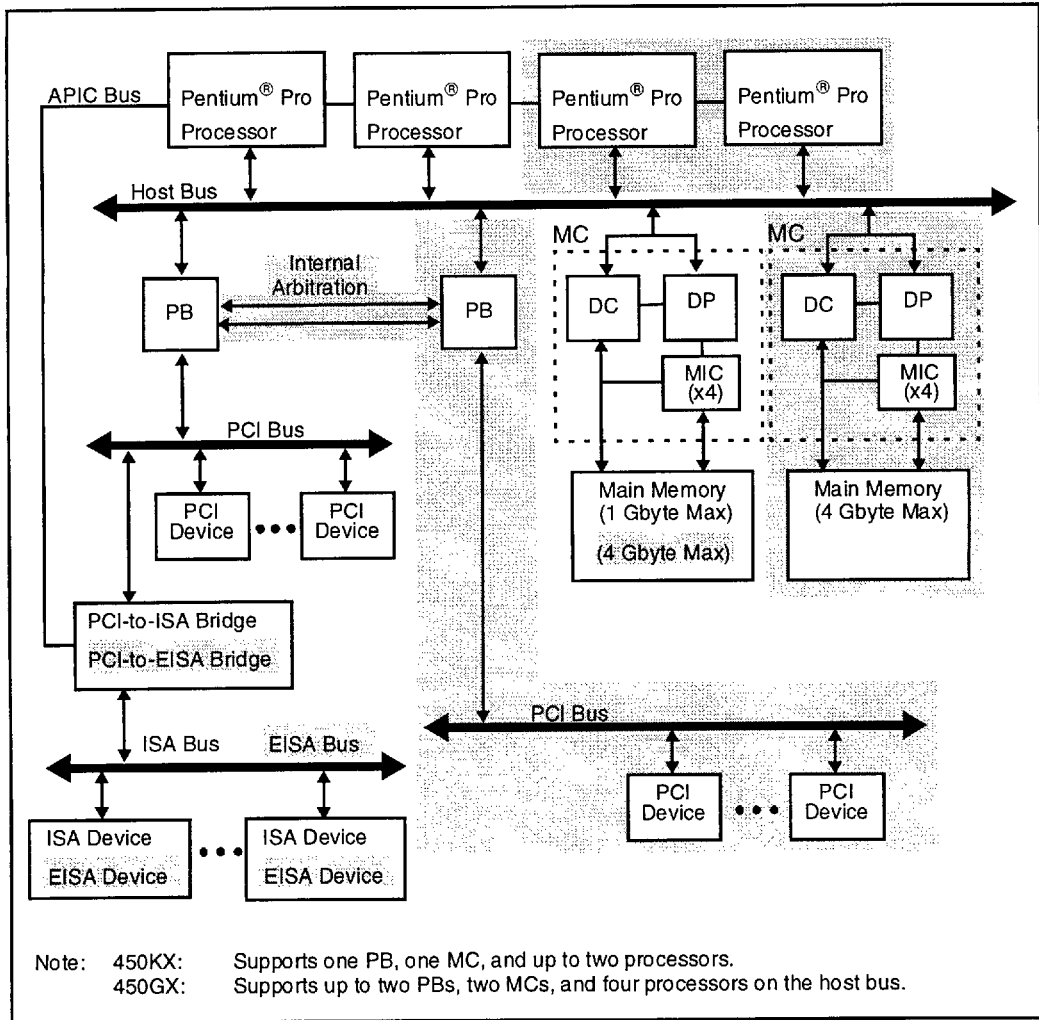

Figure 1. 450KX/GX Simplified System Block Diagram
The 450KX desktop PCiset consists of the 82454KX PCI Bridge (PB) and the Memory Controller (MC). The MC consists of the 82453KX DRAM Controller (DC), the 82452KX Data Path (DP), and four 82451KX Memory Interface Components (MIC). The system configuration using the Intel 450KX PCiset supports one PB, one MC and up to two Pentium Pro processors (Figure 1). An ISA subsystem is also located below the PB. For Pentium Pro processor bus error detection, the 450KX generates and checks parity over the address and request/response signal lines. This feature can be enabled/disabled during system configuration.